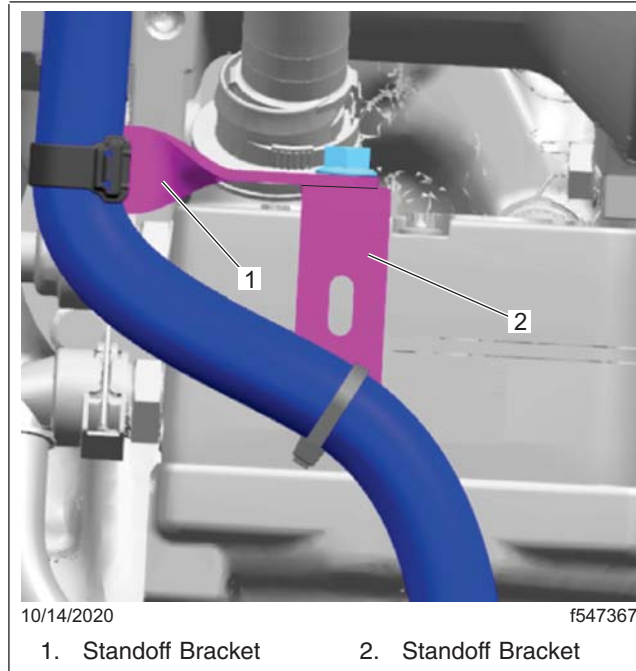

Fig. 18, Harness Secured to Both Standoff Brackets
3. Secure the engine harness to the standoff brackets. See **Fig. 18**.